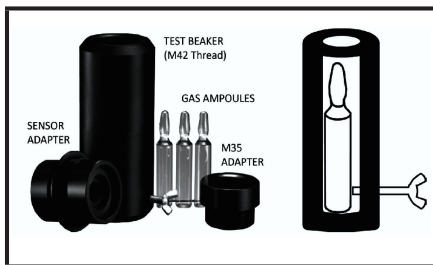

Figure 6-2 - Gas Ampoules for Bump Testing
2. Unscrew the beaker hold screw and place the ampoules so that it sits in the base of the beaker (see **Figure 6-2**).